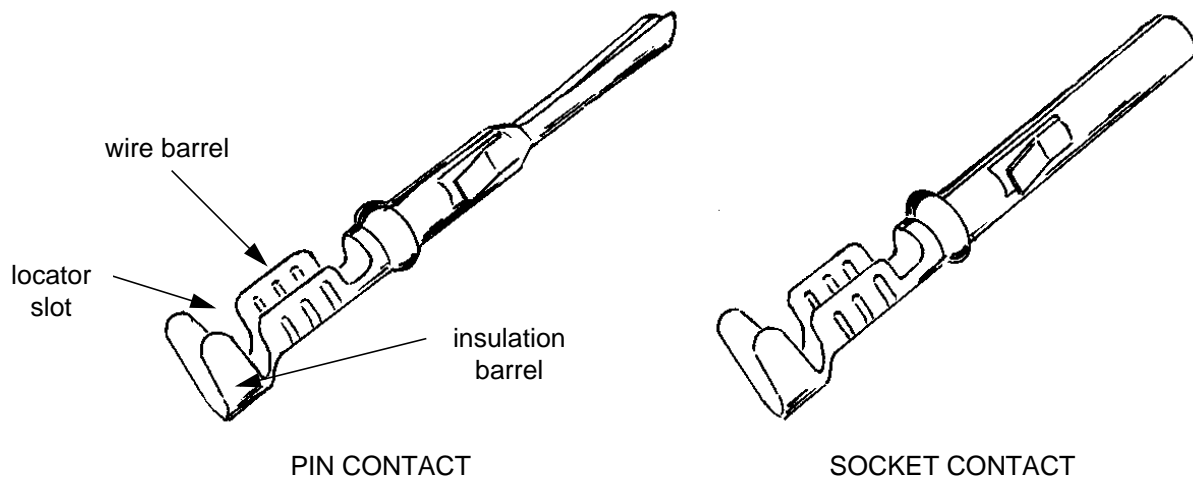
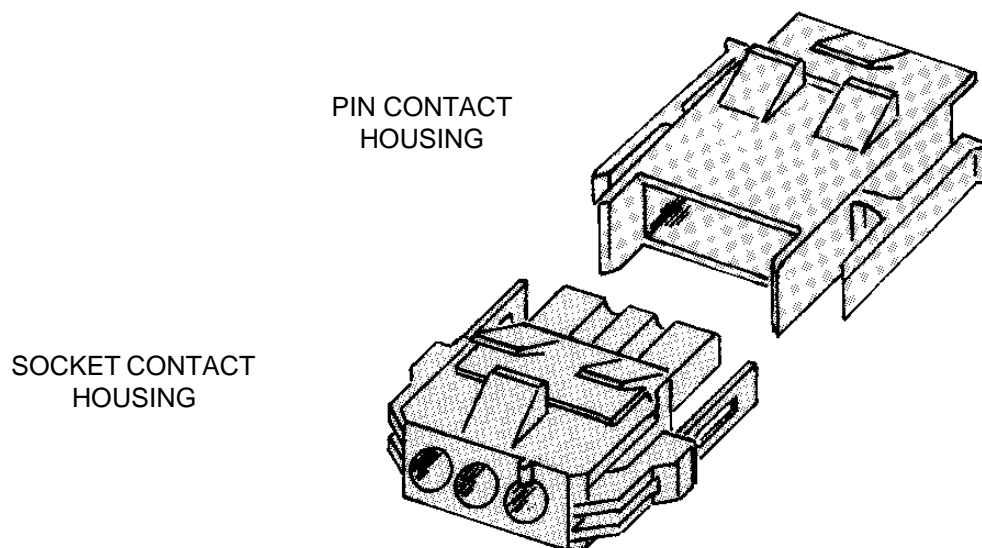

Figure 1 - Tyco (AMP) MR Contacts
Figure 2 - Tyco (AMP) MR Connector
- 4.1.1 Electrical wire, Tyco (AMP) MR contacts (see Figure 1) and Tyco (AMP) MR connectors (see Figure 2) as specified on the engineering drawing or wiring list.